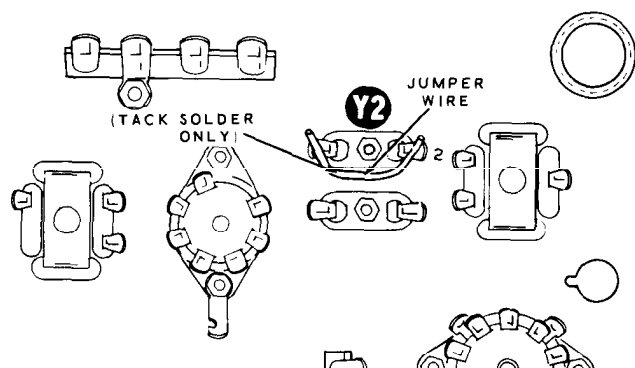

Figure 6
- () Refer to Figure 6, and connect a short jumper wire between lugs 1 and 2 of crystal socket Y2.